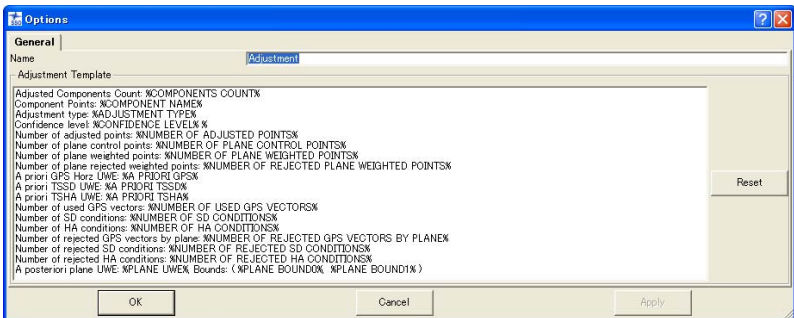

Figure 7-23. Item Options – Adjustment Report
- Adjustment Report – edit the name, type template items in the same manner as displayed on screen or delete template items, then click **OK** (Figure 7-23).